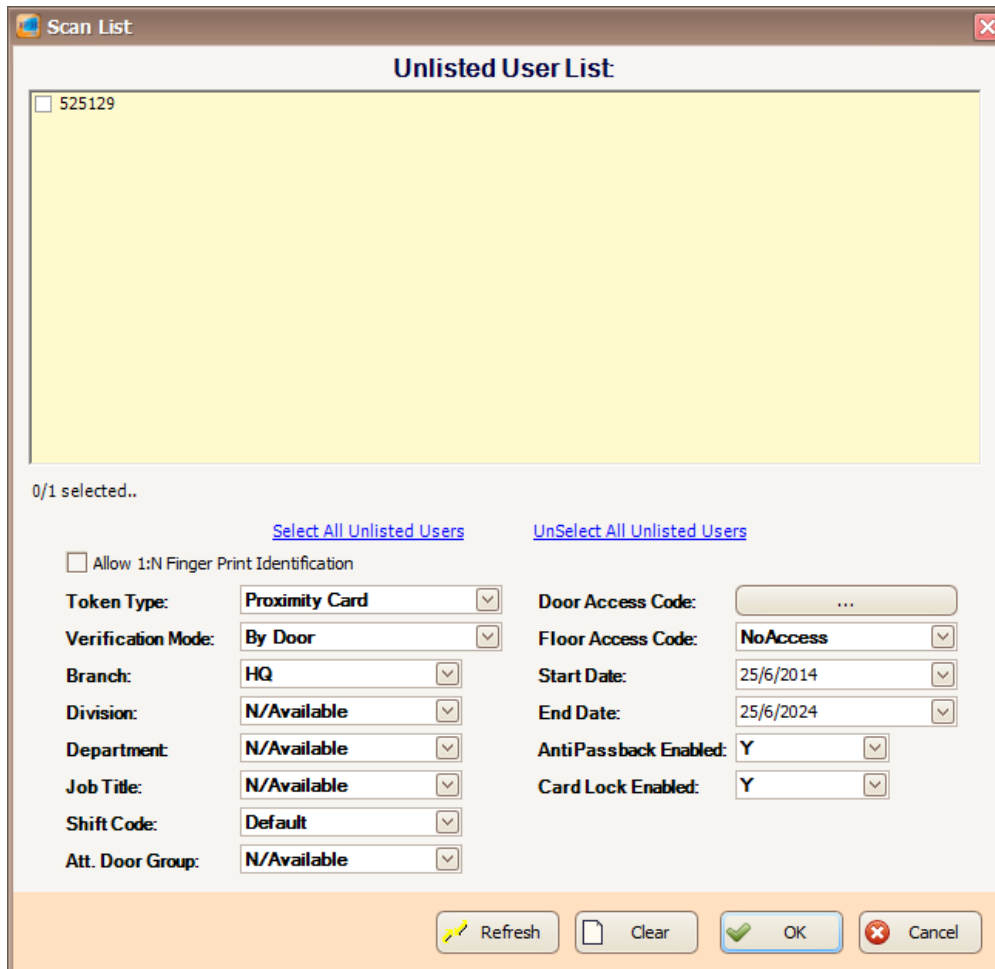

Figure 208 - Unlisted User List
2. The following screen will be shown (Refer **Figure 208**).